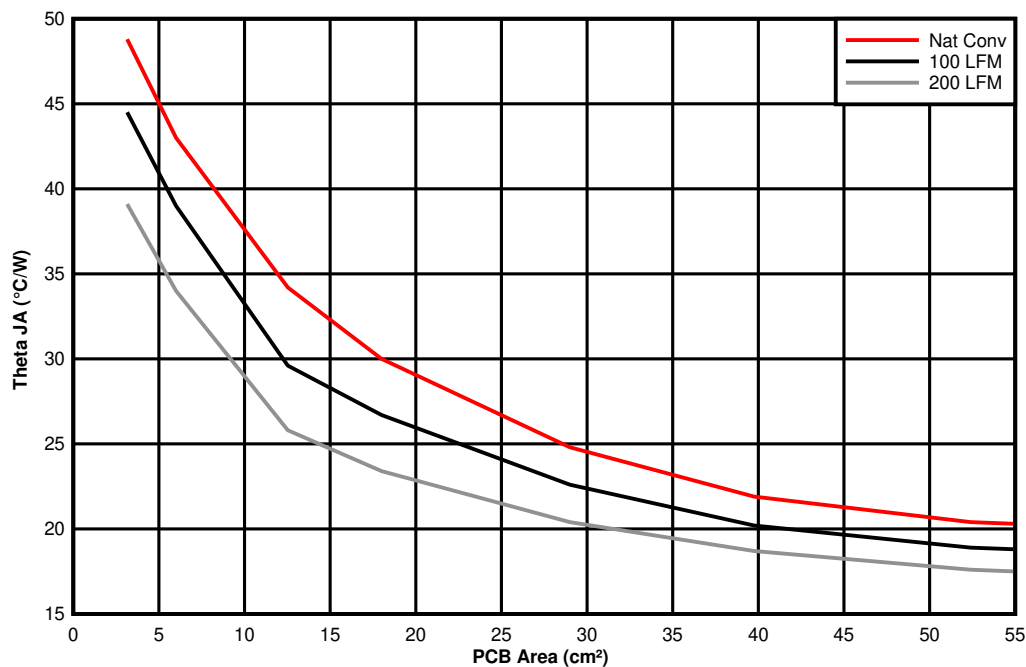

图 10-5. θ_{JA} Versus PCB Area
The amount of PCB copper as well as airflow affects the thermal performance of the device. Figure 10-5 shows the effects of copper area and airflow on the junction-to-ambient thermal resistance ($R_{\theta JA}$) of the TPSM560R6H. The junction-to-ambient thermal resistance versus PCB area is plotted for a 4-layer PCB.
3. Reference Figure 10-5 to determine the minimum required PCB area for the application conditions.